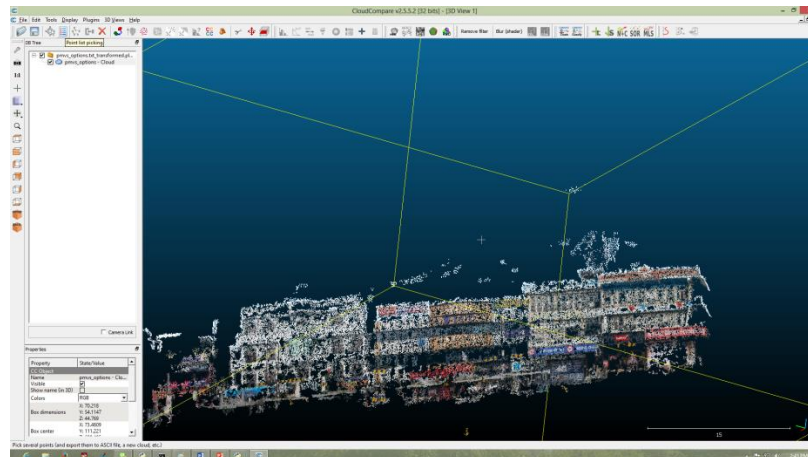

Fig 15: Point Cloud selection
- Now click on *Point list picking* (See Fig 15) in the toolbox and select the points.